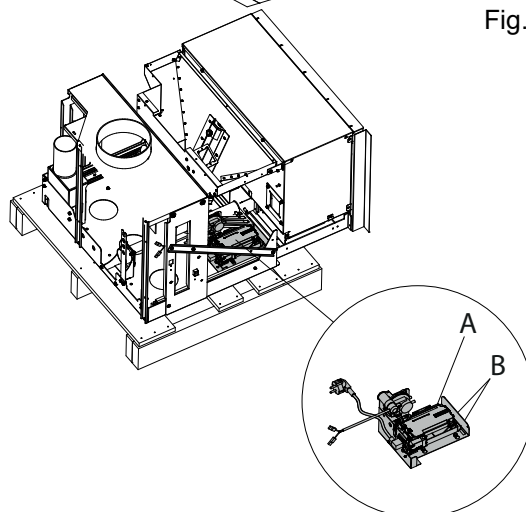

Fig. 6.1.4A
7. Temporarily disassemble the cardholder assembly (A) using the two screws (B) and place it carefully on the stationary base of the machine (Fig. 6.1.4A).
15. Reassemble the cardholder assembly (A) (Fig. 6.1.4A).